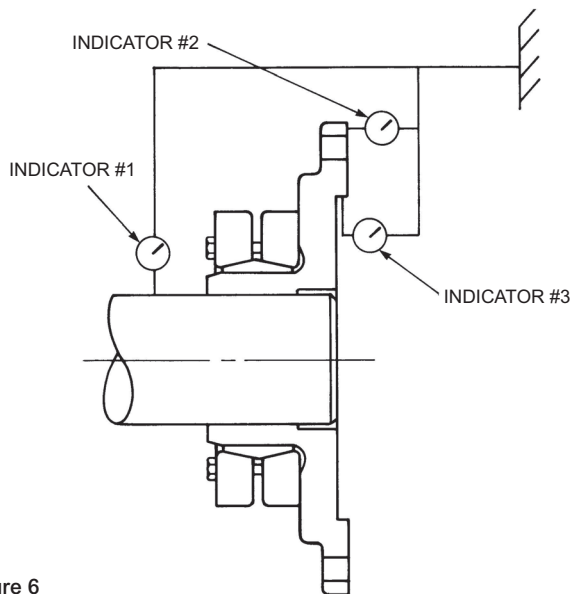

Figure 6
2. Check both shafts for runout to ensure shafts are not bent. Refer to Figure 6, page 3.
- (8) Make certain that screws will no longer turn by applying specified torque — only then is the installation complete. Make sure that both collars are still parallel. Correct if not.
- (9) Check that the hub is correctly positioned on the shaft, then using dial indicators, check hub runout as illustrated in Figure 6. Checking the hub runout ensures correctness of hub mounting and will reduce drive movement. Make sure runout values do not exceed limits listed in Table 3. If runout is excessive, reverse the hub assembly procedure, carefully reassemble, and recheck hub runout. Recheck all fasteners to be sure they are torqued to specified values in Table 1.